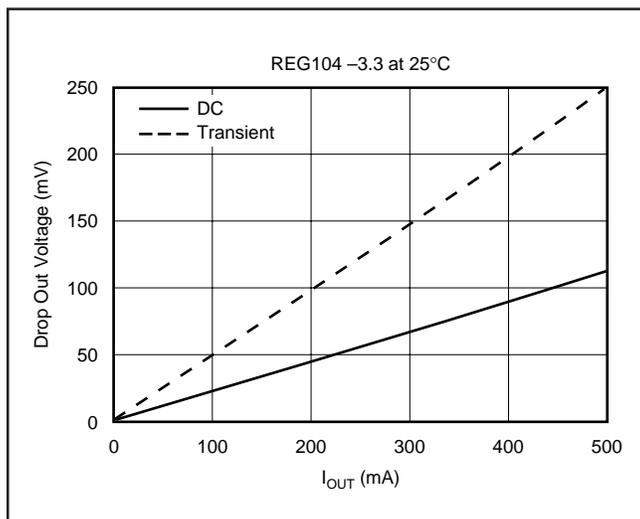

FIGURE 8. Transient and DC Dropout.
The REG104 uses an N-channel DMOS as the *pass* element. When the input voltage is within a few hundred millivolts of the output voltage, the DMOS device behaves like a resistor. Therefore, for low values of  $V_{IN}$  to  $V_{OUT}$ , the regulator's input-to-output resistance is the  $R_{ds(ON)}$  of the DMOS pass element (typically 230mΩ). For static (DC) loads, the REG104 will typically maintain regulation down to  $V_{IN}$  to  $V_{OUT}$  voltage drop of 230mV at full rated output current. In Figure 8, the bottom line (DC dropout) shows the minimum  $V_{IN}$  to  $V_{OUT}$  voltage drop required to prevent dropout under DC load conditions.
For large step changes in load current, the REG104 requires a larger voltage drop across it to avoid degraded transient response. The boundary of this *transient dropout* region is shown as the top line in Figure 8. Values of  $V_{IN}$  to  $V_{OUT}$  voltage drop above this line insure normal transient response.